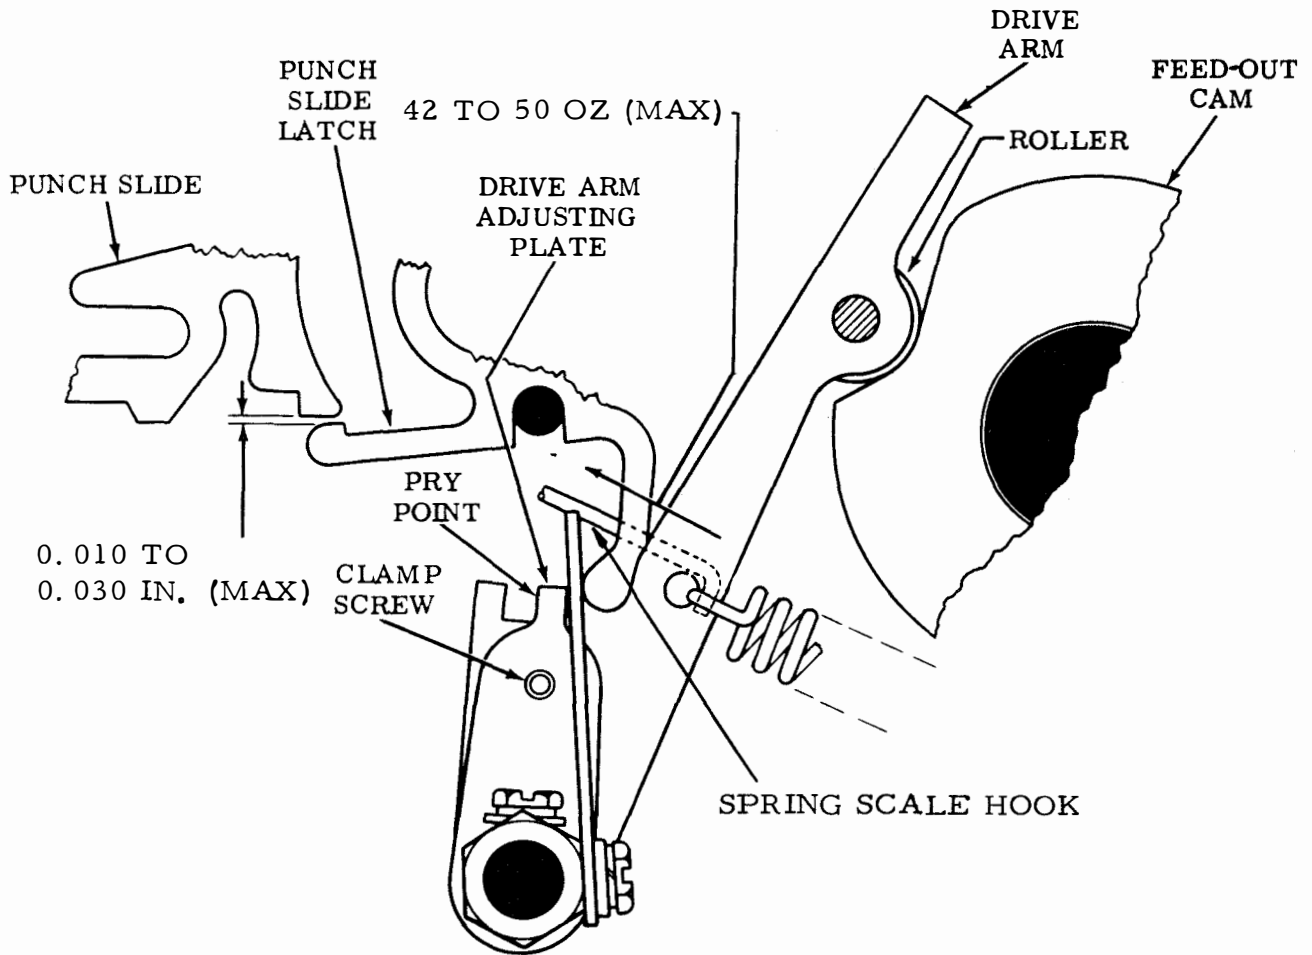

Figure 6-495. Drive Arm Spring and Punch Slide Latch, Reperforator, Front View
(22) Drive Arm Spring. Adjust as follows:
- (a) Refer to Figure 6-495.
(a) Refer to Figure 6-495.